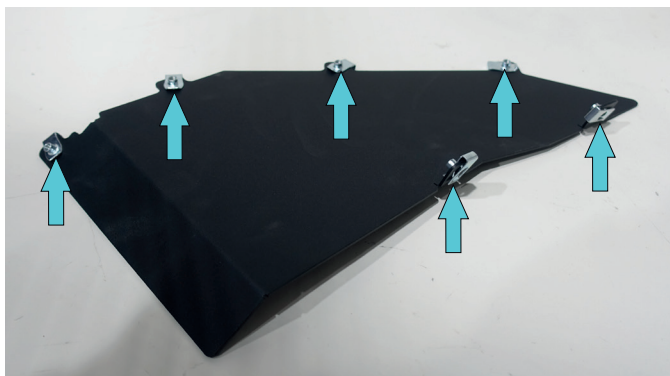

Fig.61
60. Fit U-nuts M6 (item R) on flaps (item 28, 29) (fig. 61).